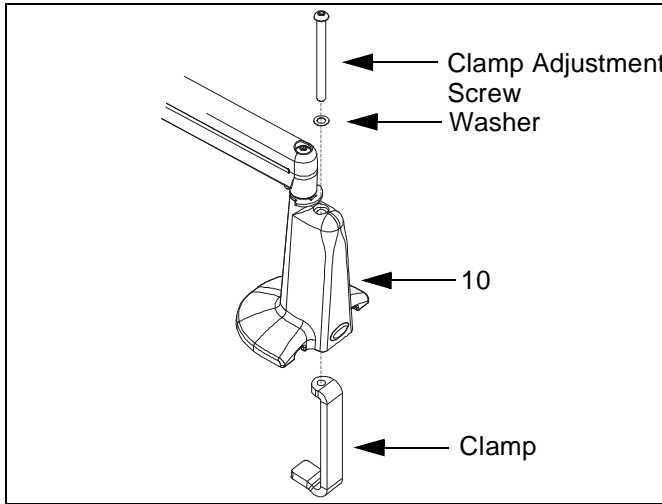

Figure 7: Remove Clamp Adjustment Screw
2. Using 3/16" hex key, remove clamp adjustment screw, washer, and clamp (See Figure 7). Retain clamp adjustment screw and washer for later use.